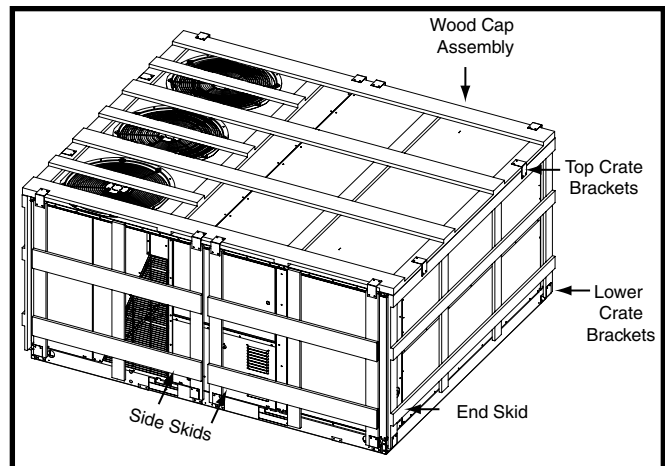

Figure 2. Side View
1. Remove top crate brackets and wooden cap assembly from top of unit (Figure 2).